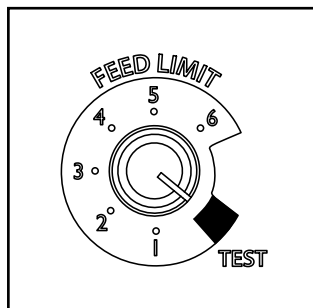

Figure 2.2
3. For your first fire it may be necessary to purge the auger system by putting the feed limit knob to "Test" prior to starting the unit. Figure 2.2. This insures that plenty of fuel enters the burn pot for proper ignition.